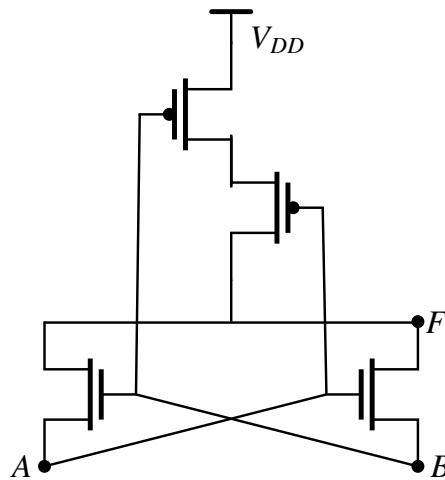

Fig. 5.33: Circuit Diagram
37. In the circuit shown in Fig. 5.33, A and B are the inputs and F is the output. What is the functionality of the circuit?